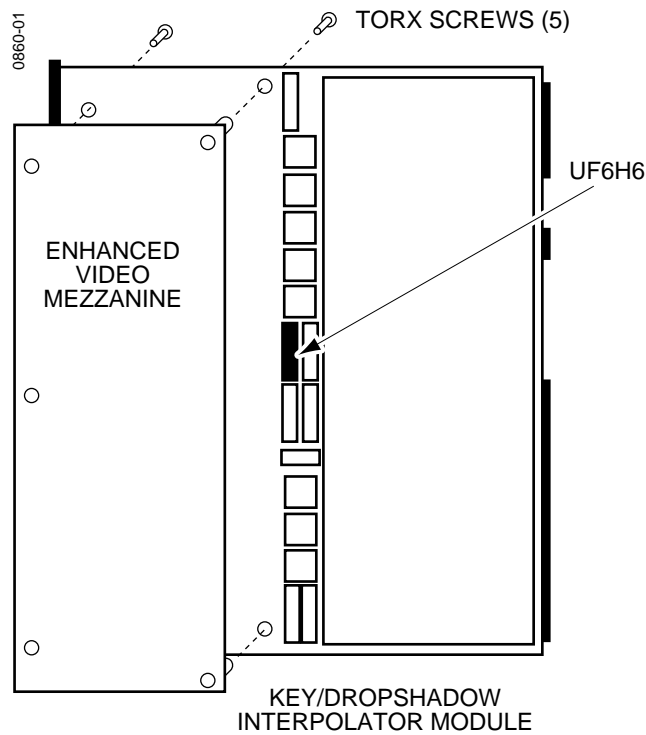

Figure 2-23. UF6H6 Location and Mezzanine Installation
2. Remove IC UF6H6 (#152147) and replace it with the PAL (#050988) included with your upgrade kit (Figure 2-23).
3. Carefully align the connectors and mounting posts on the mezzanine with those on the Key/Drop Shadow Interpolator module and seat the connectors (Figure 2-23).